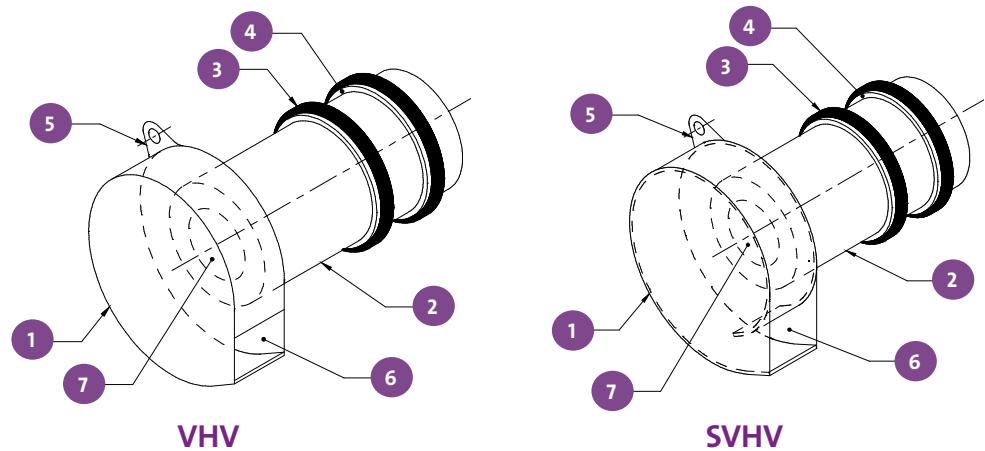

FIGURE 1: YDROVEX® VHV / SVHV VERTICAL VORTEX FLOW REGULATORS
The **HYDROVEX® VHV / SVHV** Vertical Vortex Flow Regulators (refer to Figure 1) are manufactured entirely of stainless steel, and consist of a hollow body (1) (in which flow control takes place) and an outlet orifice (7). Two rubber “O” rings (3) seal and retain the unit inside the outlet pipe. Two stainless steel retaining rings (4) are welded on the outlet sleeve to ensure that there is no shifting of the “O” rings during installation and operation.